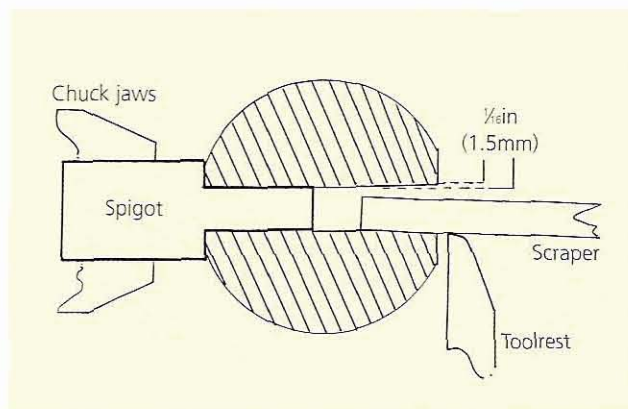

Fig 1.22 Carefully skim the hole to about one third of the way in
- 6 Using a slow speed and light strokes with a straight-sided scraper, ream out the hole. An increase of diameter of $\frac{1}{16}$ in (3mm) at the exit – starting from a depth of about one third of the way in – is enough (Fig 1.22).